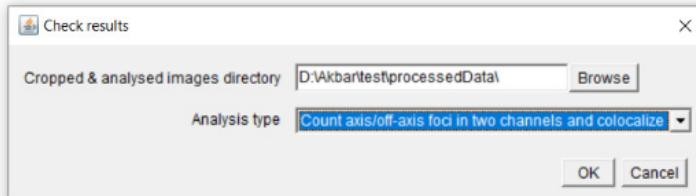

Figure 7.11. The check results menu
STEP 11. To control the analysis accuracy, whenever the save ROIs option was selected, use the “Start checking results” in the main meiosis bar. The “Check results” window will pop up (figure 7.11). If you just ran the macro, then the default folder and method are OK. If you control afterwards the macro’s results, set both folder and “Count axis/off-axis foci in two channels and colocalize” method.